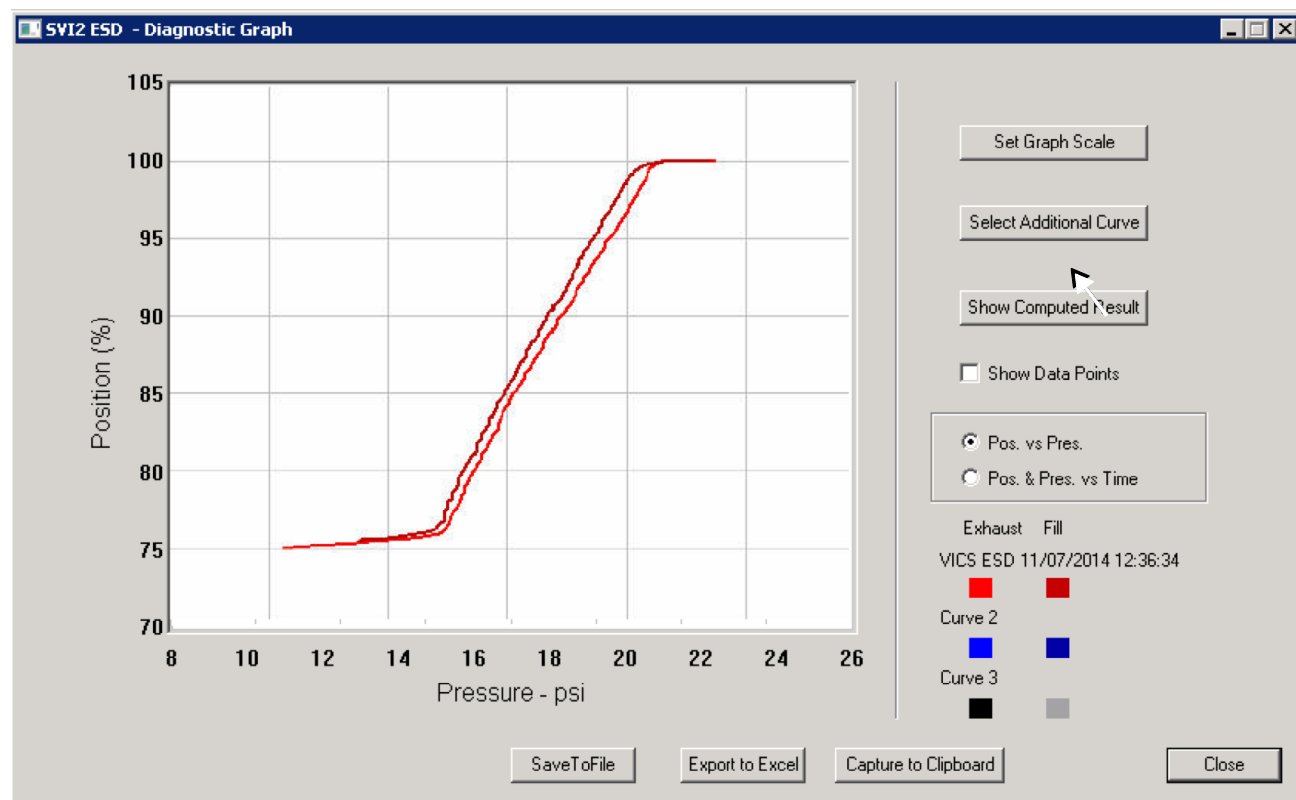

Figure 267 - Starting Select Additional Curve
1. Click **Select Additional Curve** (*Figure 267*).